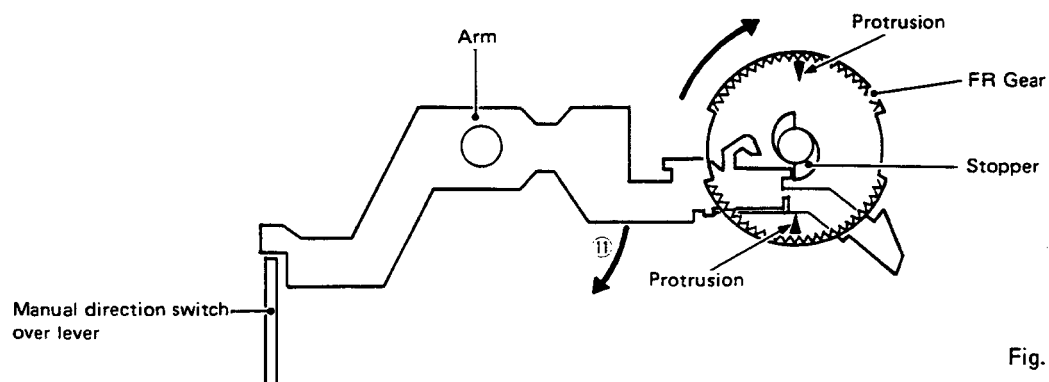

Fig. 19
2. If the manual direction switch over lever is held pushed, the inner protrusion of FR gear as shown in Fig. 19 contacts spring B of the arm, and stops after turning through half rotation.